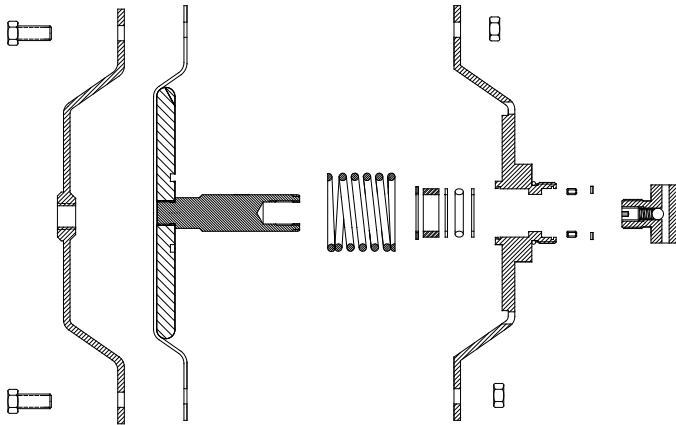

Figure 7
8. To replace the remaining seals, remove the hex head nuts (Part 17, 18 each) and bolts (Part 16, 18 each) that hold the diaphragm case (Parts 8 & 15) together. Separate the two halves and examine the diaphragm. Replace, if necessary (see Figure 7). Replacement diaphragms are flat and over time will convolute.
9. To unscrew the shield/shaft adapter (Part 2), hold on to the diaphragm plate (Part 6). With a wrench, unscrew the adapter from the shaft (see Figure 7 and 8).